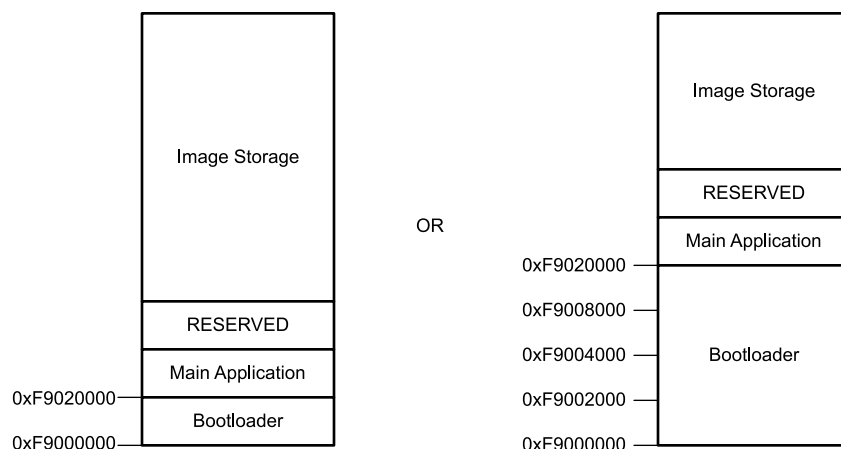

图 7-2. Boot Flash Memory Layout
All applications require both the controller and DMD components for reliable operation. The system uses an external parallel flash memory device loaded with the DLPC900 configuration and support firmware. The external boot flash must contain a minimum of 2 sectors, where the first sector starts at address 0xF9000000 which is the power-up reset start address. The first 128-kilobytes is reserved for the bootloader image and must be in its own sector and can be made up of several smaller contiguous sectors that add up to 128-kilobytes as shown in 图 7-2. The remaining sectors contains the rest of the firmware. The default wait-states is set for a flash device of 120-ns access time. For a faster flash access time, refer to the 节 7.2.1.2.1.4.2 on how to program new wait-state values.
- PM\_CSZ\_1 - dedicated CS for boot flash device ( $\leq 16$ -megabytes ). Refer to the 图 7-2 for the memory layout of the boot flash.